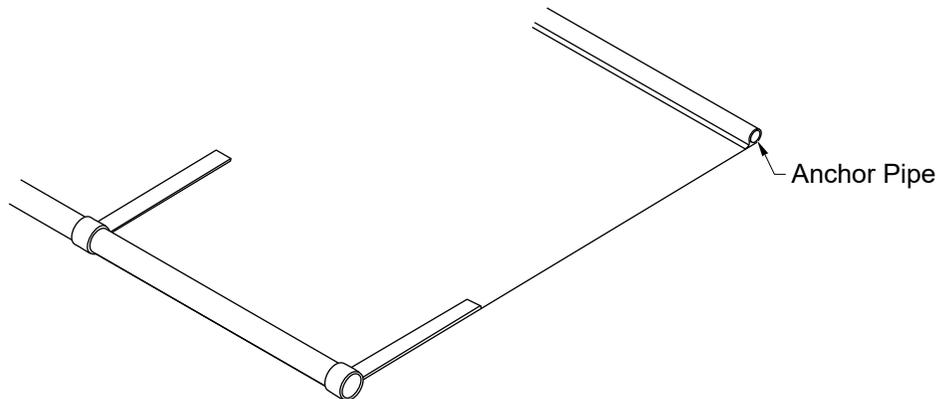

Figure 20-3
- 2) **Figure 20-3.** Cut the anchor pipe flush with the ends of the pocket on the tarp.
- 4) **Figure 20-3.** Slide the anchor pipe into the tarp pocket and secure with self-drilling screw at each end.